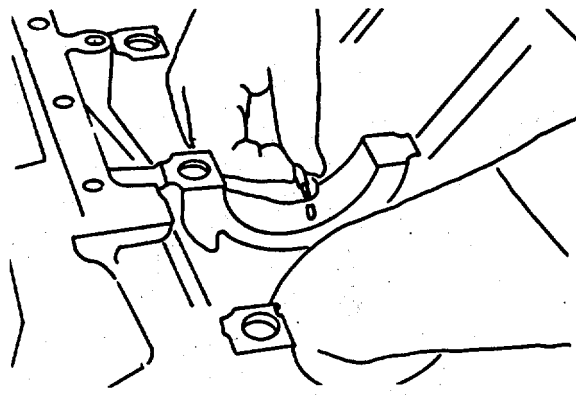

FIGURE 4-60. Removing Piston Cooling Nozzles.
- f. Using a 3/16 inch pin punch, remove the piston cooling nozzles as shown in FIGURE 4-60.